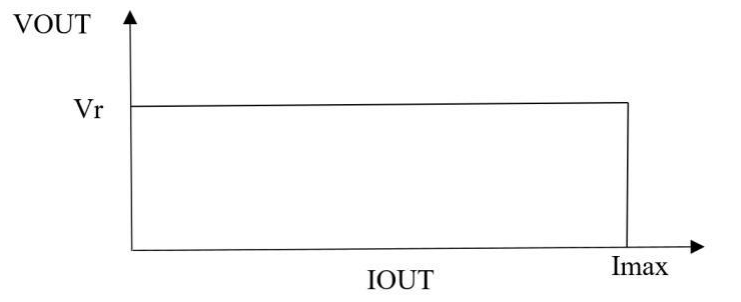

Figure 1: Plot of the output voltage versus output current for an ideal voltage regulator.
- 3.0. **Background** – Regulators are specialized electronic circuits with the function of producing a constant voltage output independent of current and input voltage. Figure 1 shows the output voltage for an ideal voltage regulator as a function of output current.